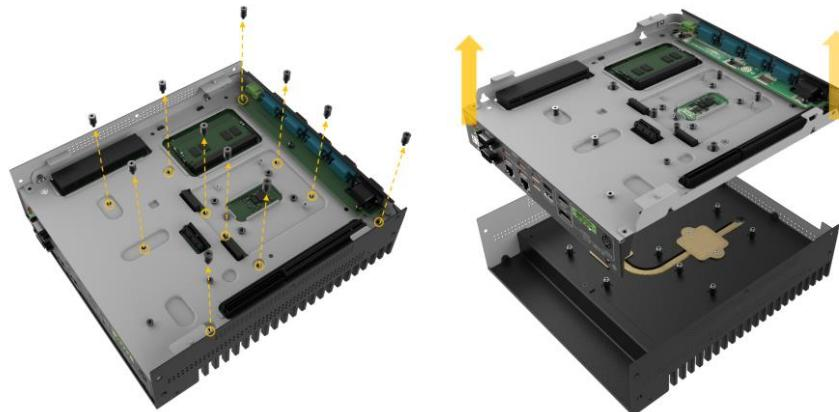

Figure 3-2: Take out the motherboard
- Step 2:** Remove the 11 spring screws on the motherboard, and then take out the motherboard (including the motherboard holder) (Figure 3-2).